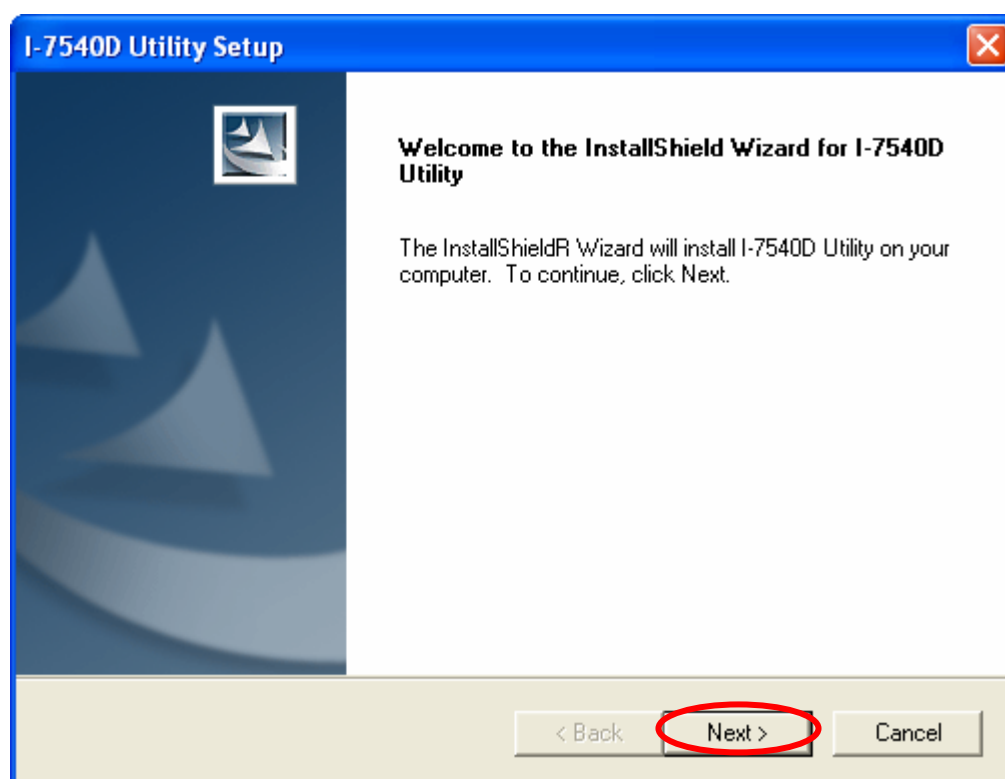

Figure 3-2: Welcome dialog
Step 3: A “Welcome” window pops up to prompt user to begin the installation. See figure 3-2.